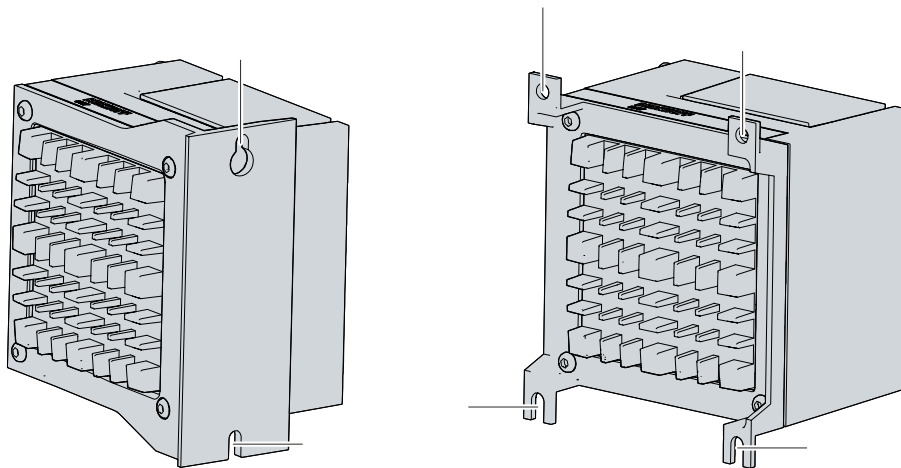

Fig. 19: C6017 _Mounting plates for control cabinet installation
2. Hang the PC onto the screws at the marked points on the mounting plate (see Fig.19).